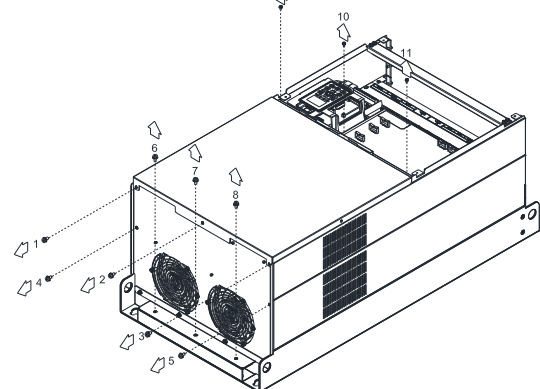

Figure 2
3. For 9–11 shown in the figure 2: Loosen the screws and remove the cover. Screw M4 torque: 14–16 kg-cm / [12.2–13.9 lb-in.] / [1.4–1.6 Nm]